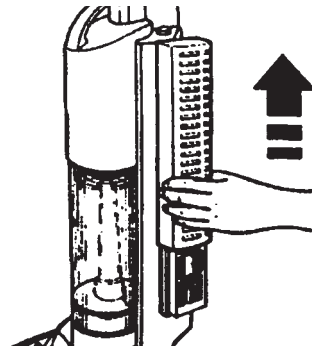

Figure 15a
2. Slide the Louvered Cover of the Housing up and off its Guide Rails. (See Figure 15a.)